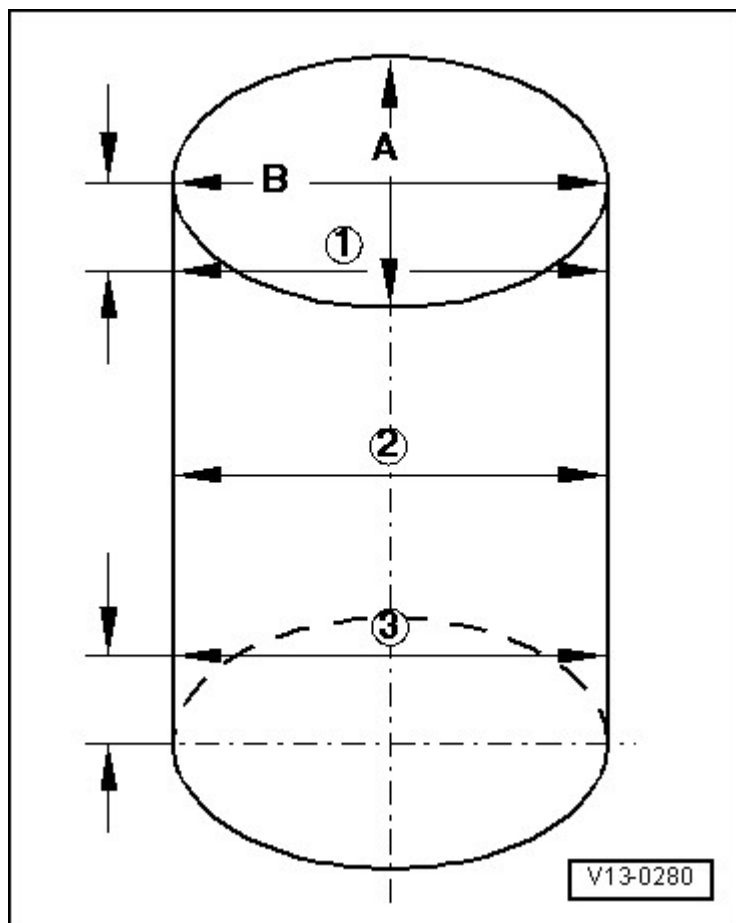

Fig. 17: Checking Cylinder Bores
- Cylinder bore, checking, refer to **Fig. 17**